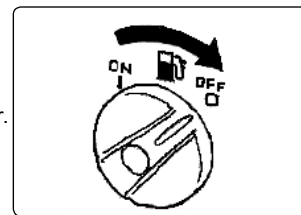

fig.13
6.4.5. Turn the fuel knob to "OFF"fig.13.